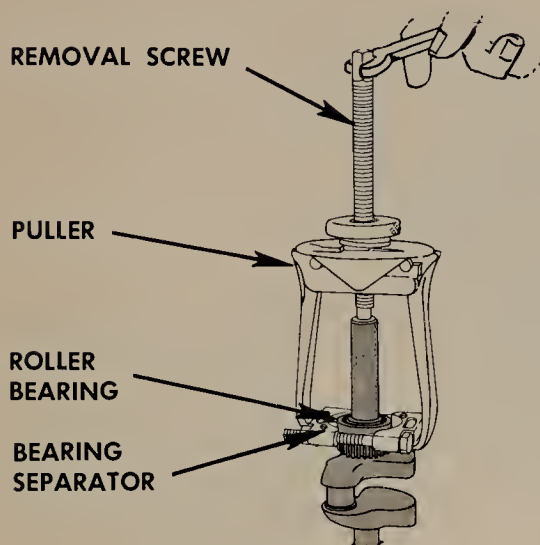

FIGURE 16.38 Removing ball bearing from crankshaft with a bearing puller.
16.9 Ball and Roller Bearings. If ball bearings are in good condition, leave them in the crankcase or on the crankshaft. You can check them by rotating the inner race to see whether they turn roughly or hard. If the bearings are worn, they must be replaced. If the bearings are on the crankshaft, they should be pulled with a puller, as shown in Fig. 16.38, or pressed off with an arbor press, as shown in Fig. 16.39. Then a new bearing can be pressed on with a special tool.